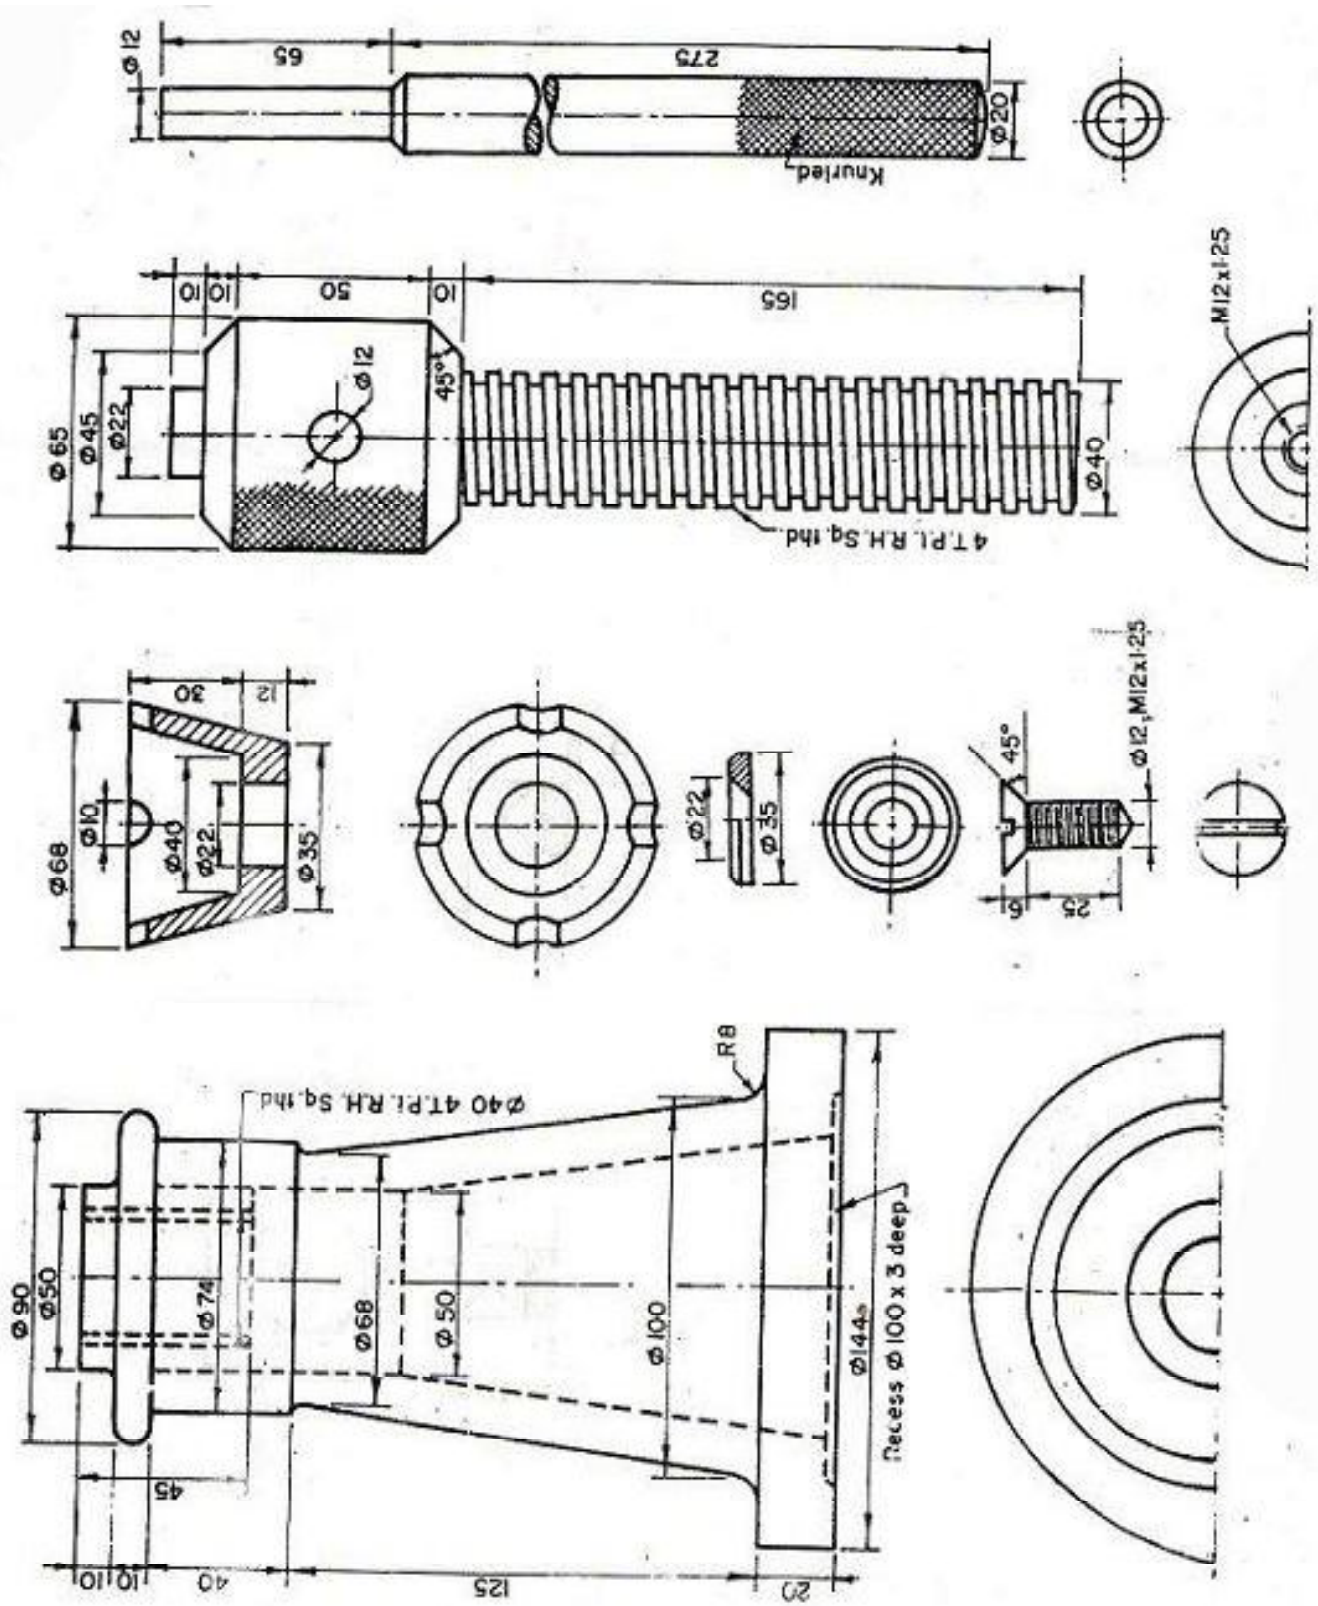

Fig. 1
7. Assemble the part of **Screw jack** given in Fig. 1 and draw the following views :